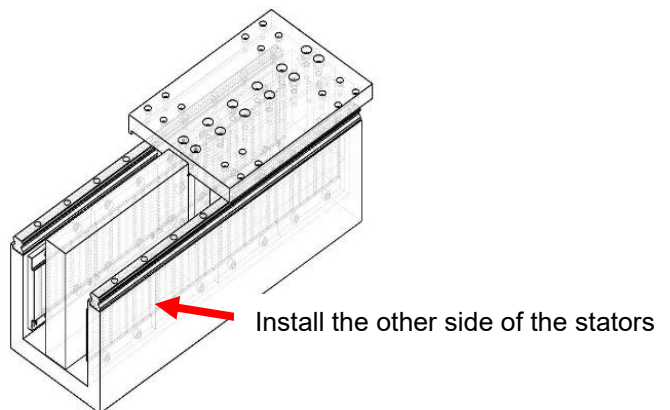

Figure5.1-25 Install the other side of stators
- ▶ Use the non-magnetic tool to install the other side of the stators for half of the stroke. (refer to Figure5.1-25)